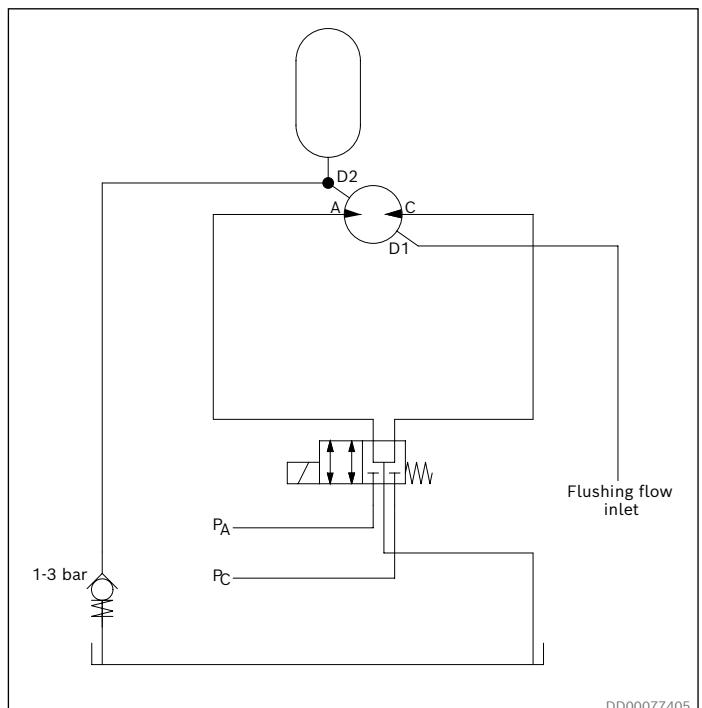
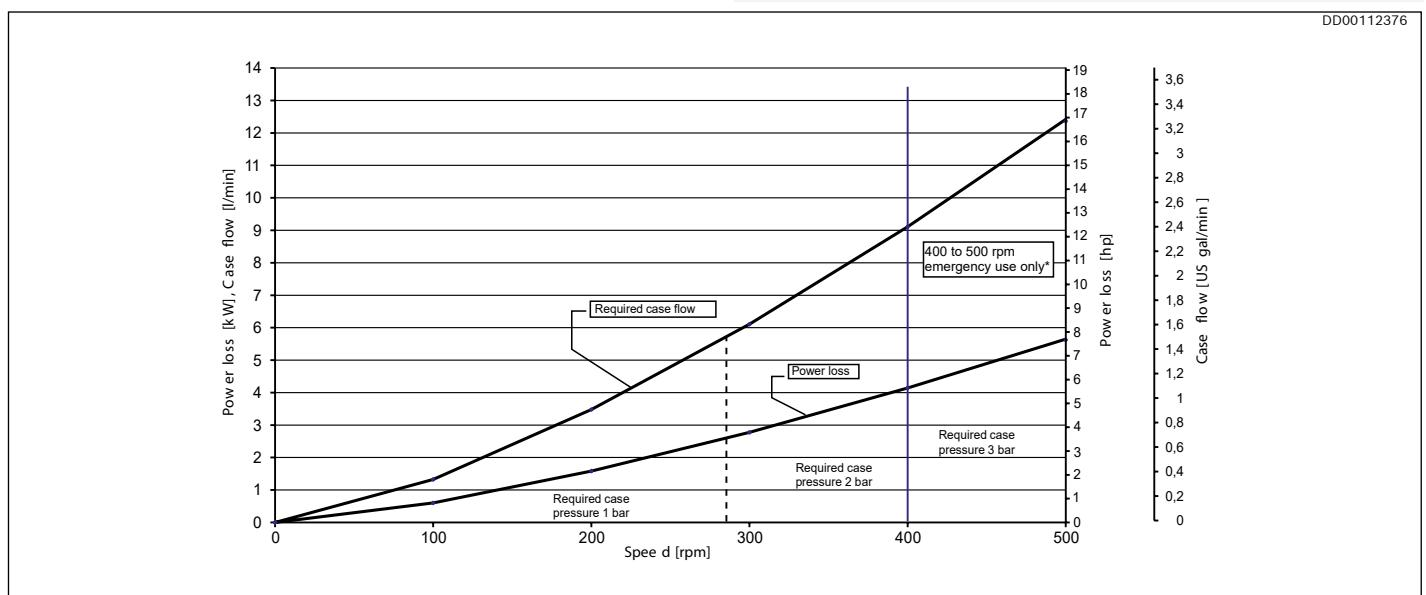
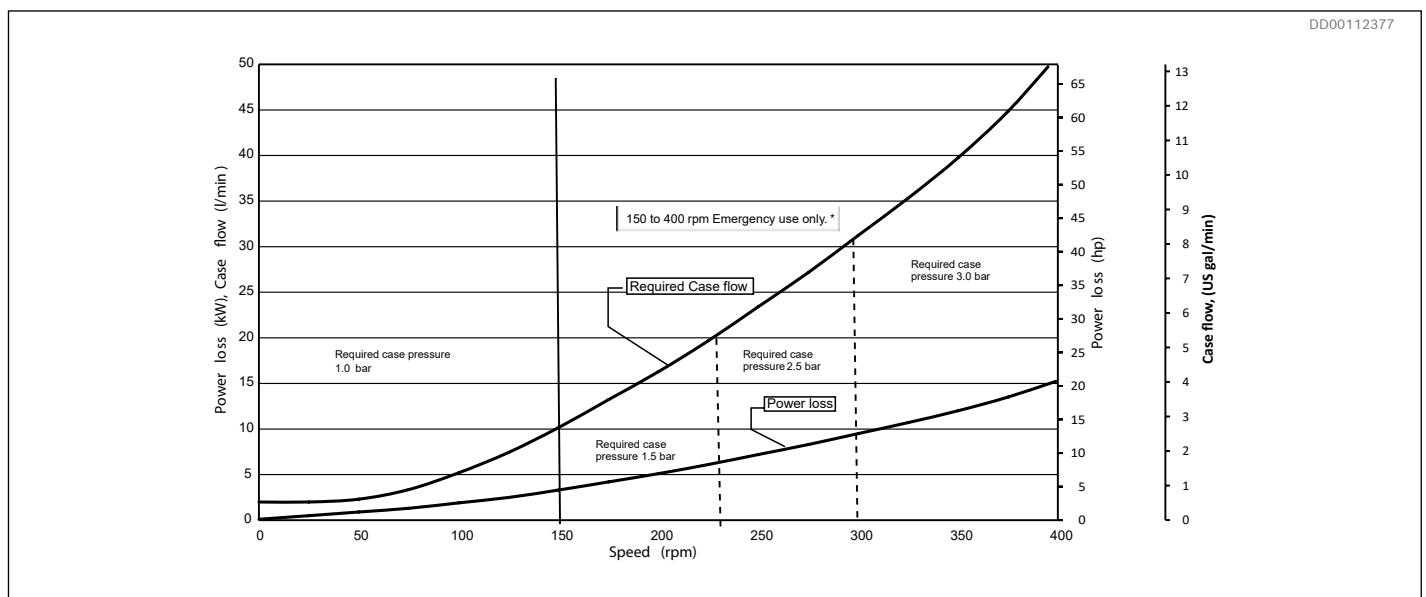

Fig. 34: Schematic principle freewheeling.
Fig. 35: Power loss freewheeling CBp 140, oil viscosity 40 cSt (187 SSU)
Fig. 36: Power loss freewheeling CBp 280 to CBp 840, oil viscosity 40 cSt (187 SSU)
The basic function of the freewheeling is to have the motor housing (via drain ports D1 to D4) lightly pressurized (see Fig. 35 and Fig. 36) while main ports A and C are without restriction drained directly to the fluid reservoir. See Fig. 34. The case pressure introduced in the normal drain connection will then act on the outer surface of each piston assembly pressing them towards the motor centre.
3. An adequate pressure introduced into the drain ports of the motor. See Fig. 35 and Fig. 36 (required case pressure).
- The motor case must be pressurized all the time when the motor is in freewheeling mode, see *Fig. 35* and *Fig. 36*.
- The motor case must be flushed all the time when the motor is in freewheeling mode, see *Fig. 35* and *Fig. 36*.
An accumulator can be added into the circuit to shorten the time to retract all the pistons completely, see *Fig. 34*.
An accumulator can also be added into the circuit to reduce the pressure spikes in the motor case when the pistons are extracted, see *Fig. 34*.
Even if the freewheeling operation takes place with lowest possible friction in the main bearings and with no flow losses in the main ports of the motor, a powerloss must take place in the motor case due to viscous friction between moving and fixed parts. This powerloss is expressed in Fig. 35 and Fig. 36.
Case flushing is required to prevent overheating, see diagram Fig. 35 and Fig. 36
In order to accomplish proper freewheeling, a case pressure according to Fig. 35 and Fig. 36 has to be maintained.